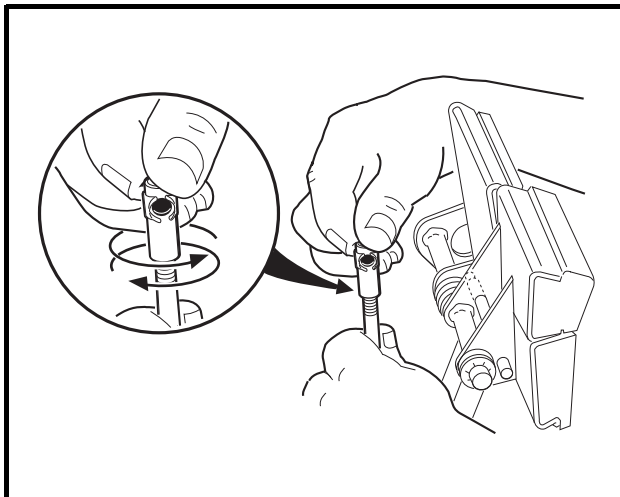

Figure 5-27 Brake Rod Adjustment
- 3.6. If ratchet/pawl engagement must be adjusted, disconnect the ball joint at the top of the brake rod and rotate the ball joint sleeve clockwise to increase engagement or counterclockwise to decrease engagement. Reconnect ball joint (Figure 5-27, Page 5-18).